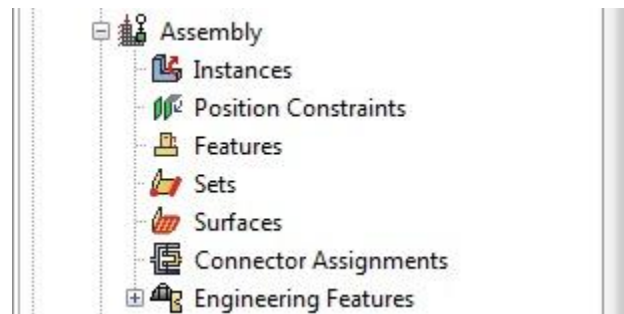

Figure 14. Model Tree Expansion (Assembly)
- Before the part will be meshed, it can be brought into the assembly. To do this task, click the **+** to the left of **Assembly** in the model tree. The model tree will expand and should look identical to Figure 14.